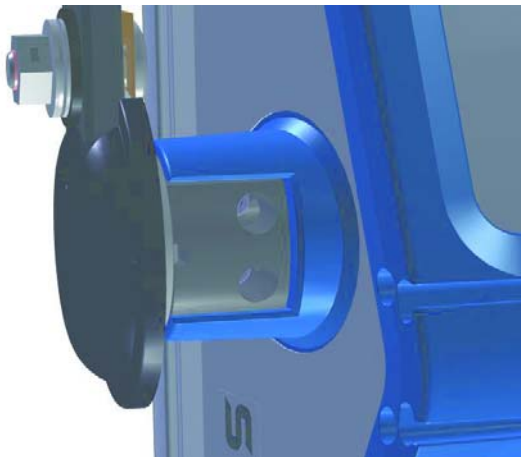

Figure 6: To mount the stirrup
- Insert both connector elements on both sides of the stirrup into the holder on each side of the SkyPanel (see Figure 6).
- Loosen and remove two allen screws on each side of the product (4 mm allen key, see Figure 6).